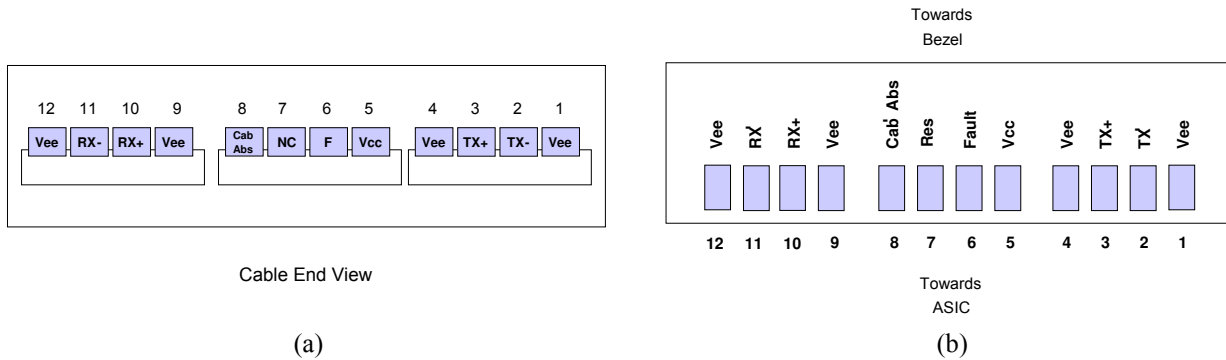

Figure 2. Pinout : (a) Laserwire cable plug end view, (b) Adapter pin-out (Laserwire port endview).
1. AC coupled internally. See Figure 2 of Laserwire (P/N FCBP110LD1Lxx) Datasheet for input eye mask requirements. Self-biasing 100Ω differential input.